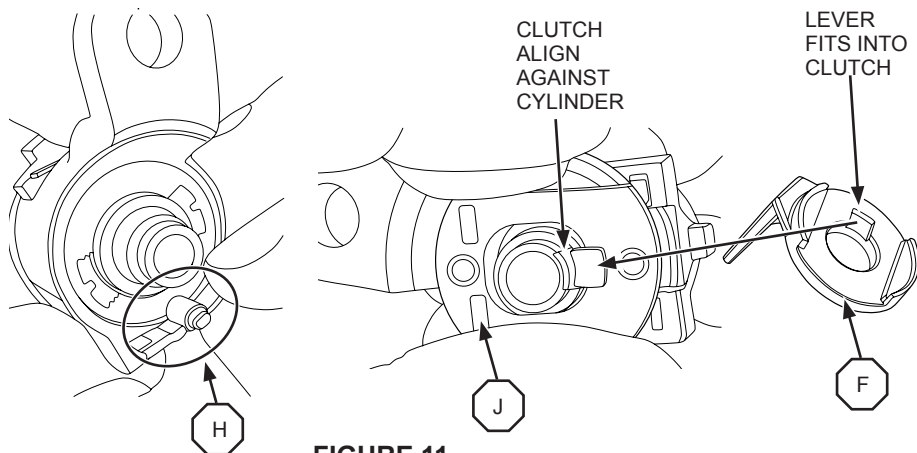

FIGURE 11
11. Insert the Indexer (H) into the Housing cavity. (Refer to Figure 11).